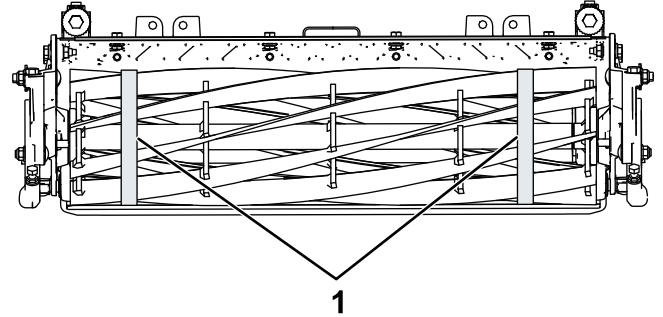

Figure 41
3. Using diameter measuring tape, measure the outside diameter of the reel at both ends (Figure 41); the difference in outside diameter between the ends should be less than 0.010 inches (0.250 mm). If the difference is greater, grind to correct the difference.